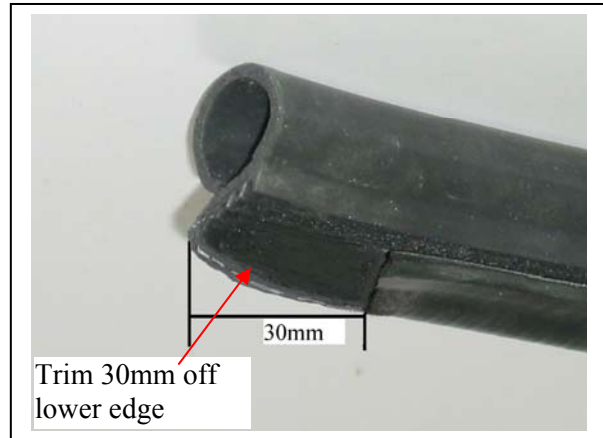
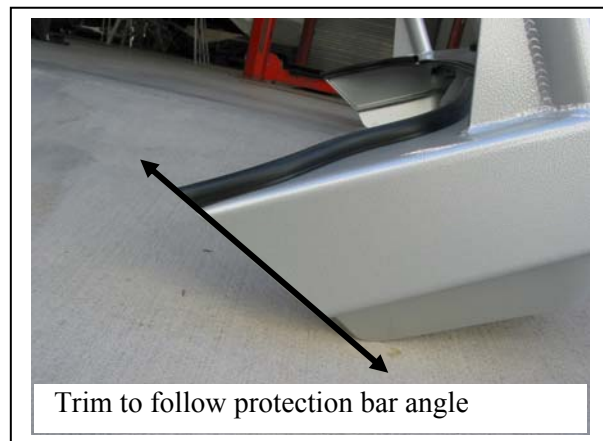

Figure 2
Figure 4
7. Attach infill trim (supplied) to top of ECB protection bar. **NOTE:** Trim 30mm off lower edge so trim will sit over end of protection bar. **See figures 2 and 3. Trim excess off end to follow protection bar. See figure 4. NOTE:** Seal any exposed edges of trim with silicone or similar to avoid corrosion of inner steel.